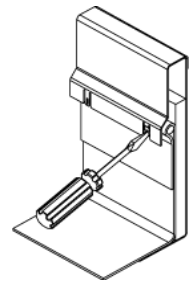

Figure 1
4. Install roofing material up to and surrounding the roof curb, and under the counterflashing at the top of the curb. Use the EZ tab feature, *figure 1*, to provide additional mechanical support to hold and secure roofing membrane. Lap and seal all joints in roofing material to provide a weather-tight seal.